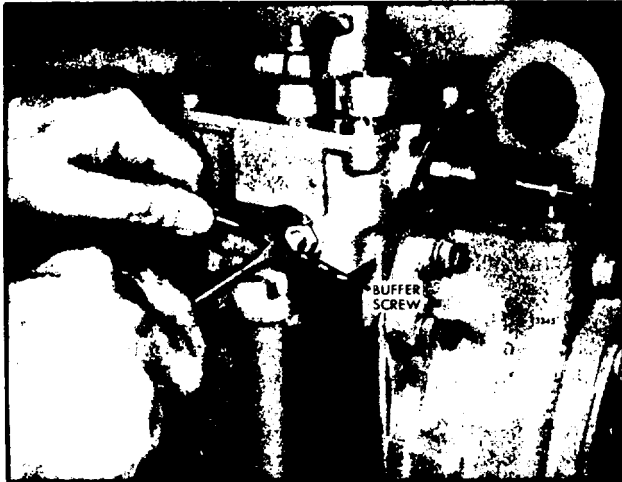

Fig. 8 - Adjusting Buffer Screw
1. With the engine running at normal operating temperature, turn the buffer screw in (Fig. 8) so it contacts the differential lever as lightly as possible and still eliminates engine roll.
3. Start the engine and loosen the idle speed adjusting screw lock nut. Then adjust the idle screw (Fig. 8) to obtain the desired engine idle speed. Hold the screw and tighten the lock nut to hold the adjustment.